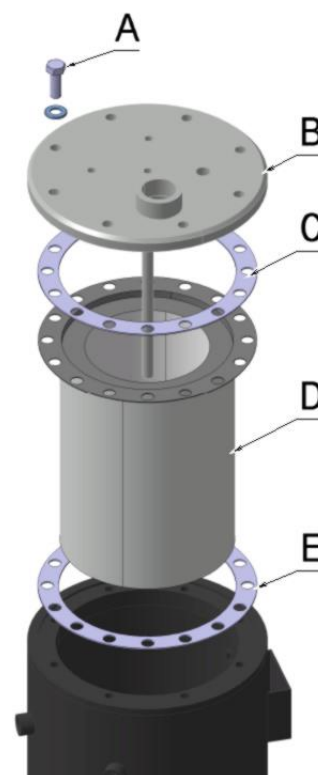

Figure 13.4.7 Oil mist separator filter
3. Loosen the screws (Fig. 13.4.7 part A) and remove the cover (B).
4. Remove the filtering element (D) together with the seals (C) and (E).
5. Assemble the new seal (E) in the relative slot which has been previously cleaned. Check that a metallic staple has been clipped to the seal in order to avoid the insulation of the filter and the accumulation of static electricity. Otherwise, there is a risk of the separator filter catching fire.
7. Assemble the second seal (C) with the same precautions as above.
8. Reassemble the cover (B) in the pre-assembly position.
9. Tighten the bolts (A) with a tightening torque of 80 Nm/59 ft-lbs.
13. Stop the engine and with the tank depressurized to 0 bar/0 psi, re-check the torque of the cover bolts (A).